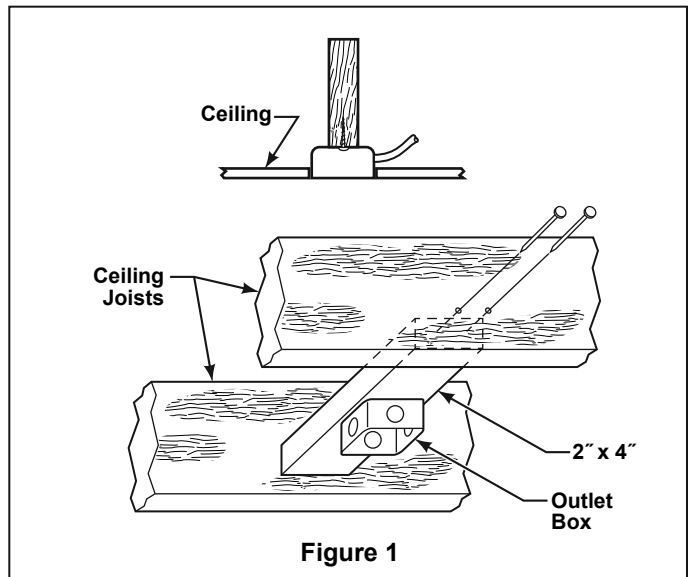

Figure 1
NOTE: If you are uncertain of part description, refer to exploded view illustration. (Figure 1, page 11)
Your new ceiling fan will require a grounded electrical supply line of 120 volts AC, 60 Hz, 15 amp circuit. The outlet box must be securely anchored and capable of withstanding a load of at least 50 lbs. **Figure 1** depicts different structural configurations that may be used for mounting the outlet box.
1. Remove the Hanger Ball by loosening the setscrew in the Hanger Ball until the ball falls freely down the Downrod. (Figure 1) Remove the Pin from the Downrod, then remove the Hanger Ball. Retain the Pin and Hanger Ball for reinstallation in Step 5.